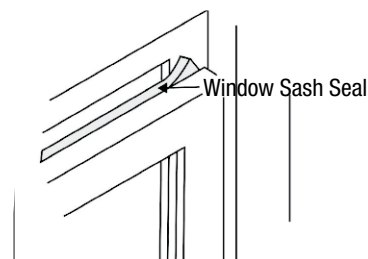

FIG. 19A
1. Trim sash seal to fit window width. Insert into space between upper and lower sashes. (Fig 19A)